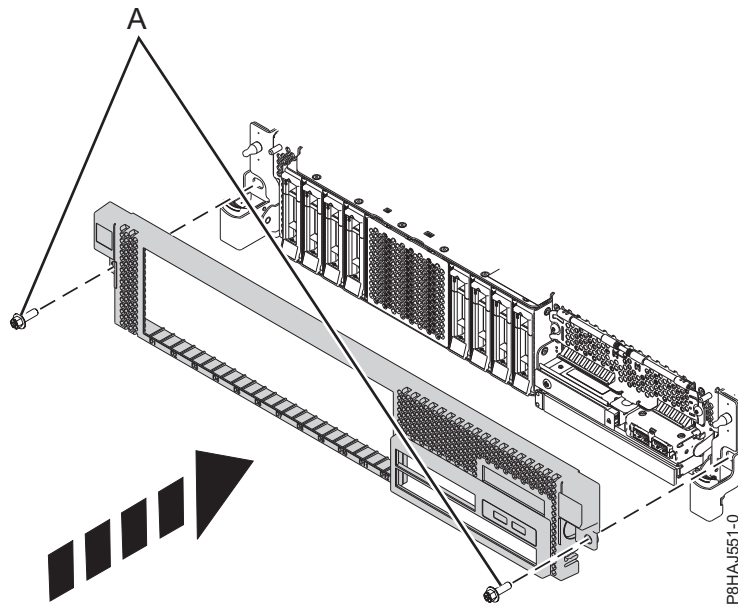

Figure 117. Installing the front cover
3. Close the release latches by pushing in the direction shown in Figure 117 on page 135. The cover snaps into place and has an indentation where you can hold onto it more easily.
4. Replace the shipping screws (A).